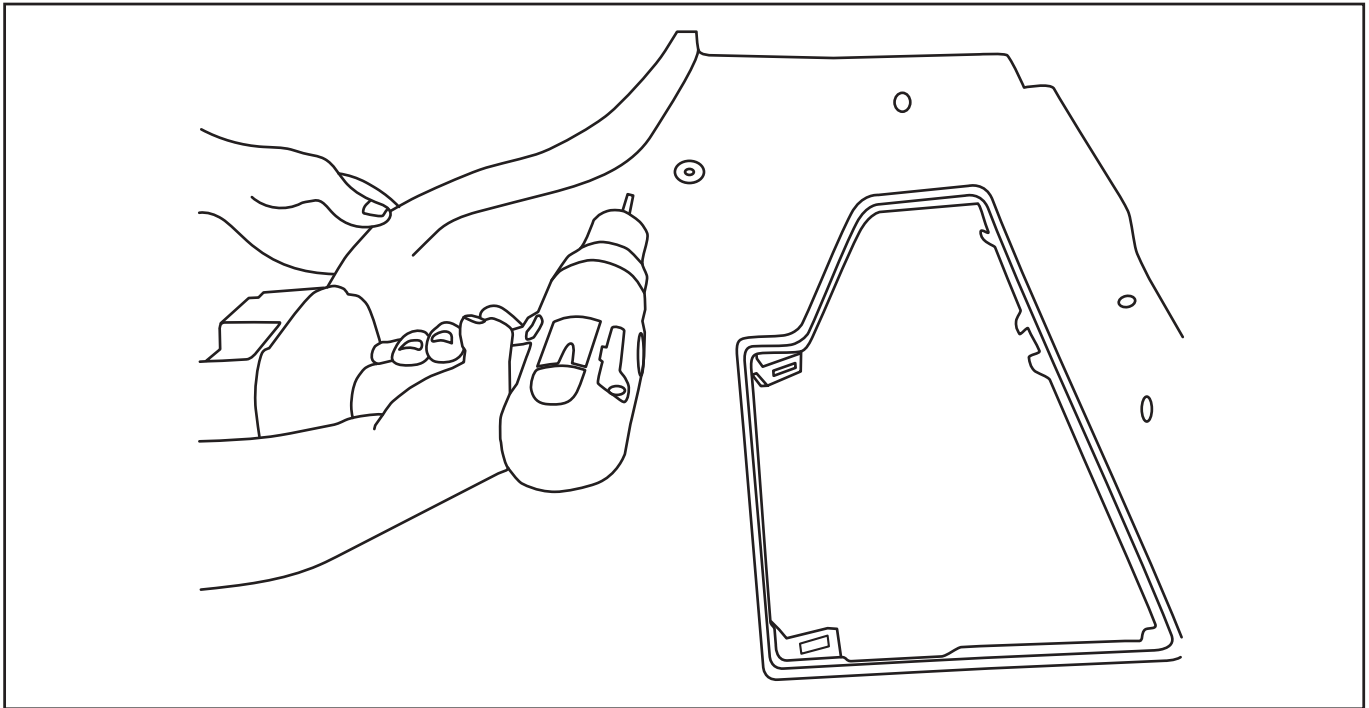

Fig. 13
15. Out of the car, drill through both pilot holes on each trunk trim panel with a 6mm or 1/4" drill (Fig. 13).